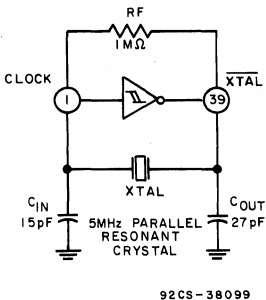

Fig. 7 - Typical 5-MHz crystal oscillator.
**On-Chip Clock (See Figs. 7, 8 and 9)**
A typical crystal oscillator circuit is shown in Fig. 7. The crystal is connected between terminals 1 and 39 (CLOCK and XTAL) in parallel with a resistance. RF (1 megohm typ.). Frequency trimming capacitors, CIN and COUT, may be required at terminals 1 and 39. For additional information on crystal oscillators, see ICAN-6565.
All inputs except BUS 0 - BUS 7 and  $\overline{ME}$  contain a Schmitt Trigger circuit, which is especially useful on the CLEAR input as a power-up RESET (See Fig. 10 and 11) and the CLOCK input (See Fig. 7 and 8).